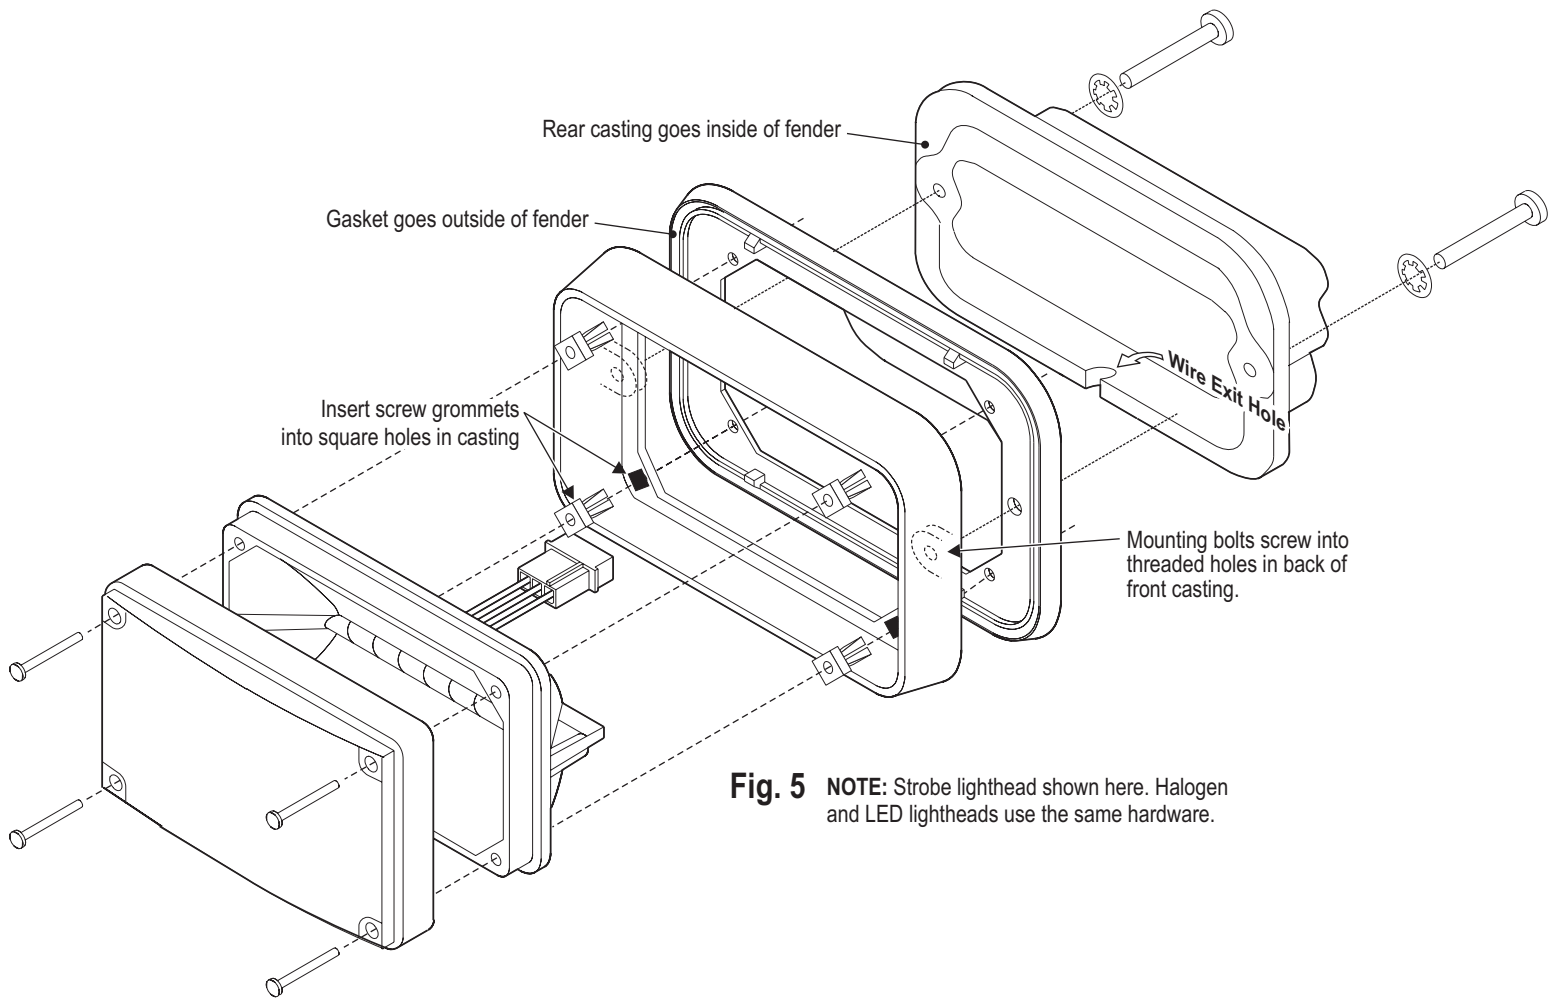

Fig. 5 NOTE: Strobe lighthead shown here. Halogen and LED lightheads use the same hardware.
4. Attach the lighthouse to the vehicle (Fig. 5). Be sure to locate the wire exit hole (in the rear casting) on the bottom and run the wires through before tightening the mounting bolts.